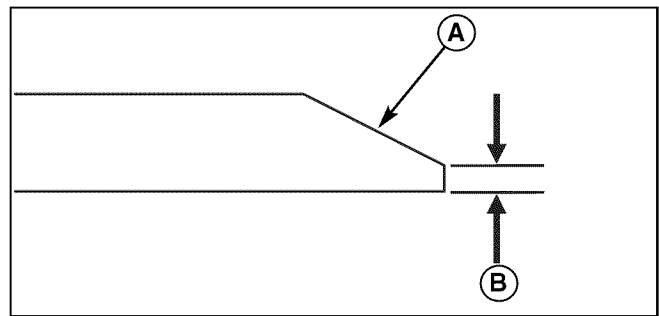

Figure 23. Sharpening the Mower Blade
3. Keep the original bevel (A, Figure 23) when grinding. DO NOT change the mower blade bevel.
4. The mower blade should have a maximum 1/64" (0,40 mm) cutting edge (B) or less.